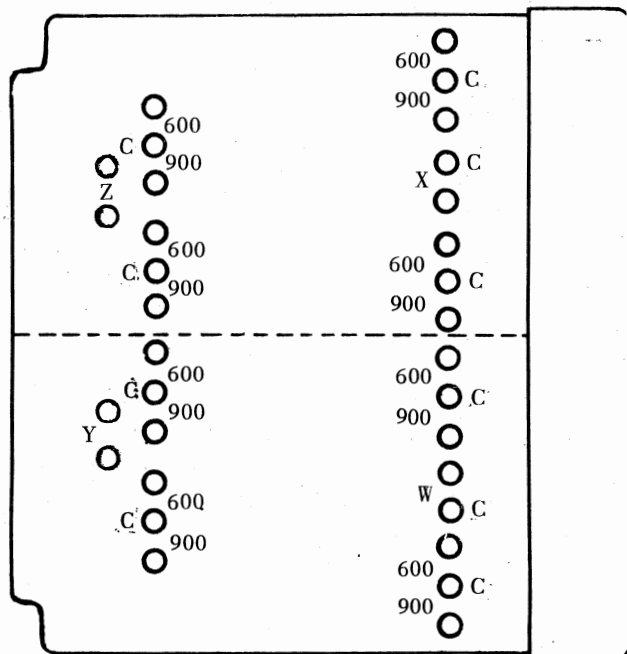

Figure 2. Strapping Post Location Diagram.
- Install the 600 ohm straps of the specific line on the line side of the transformer (See Figure 2).